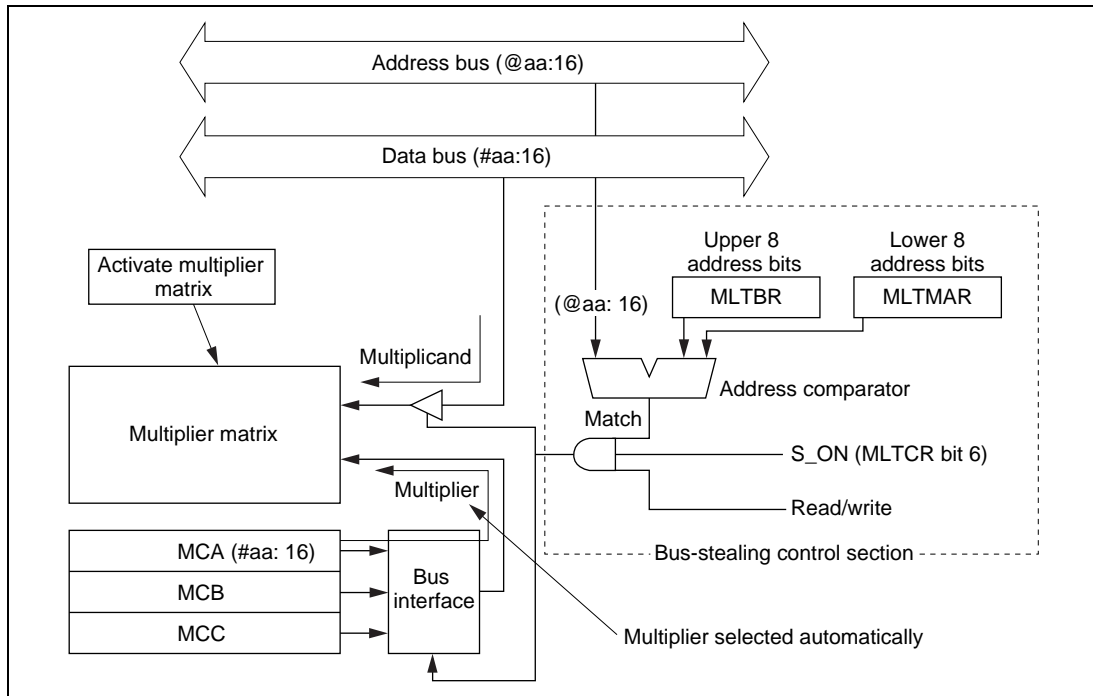

Figure 5-3 Loading of Multiplicand and Activation of Multiplier by Bus Stealing
(2) Loading of Multiplicand and Activation of Multiplier by Bus Stealing: Figure 5-3 shows the loading of the multiplicand and automatic selection of the multiplier register by bus stealing. If the S_ON bit is set to 1, the H8MULT module monitors the address bus when the CPU accesses its memory address space, and compares the address on the bus with the MULT base address register (MLTBR) and MULT multiplicand address register (MLTMAR).